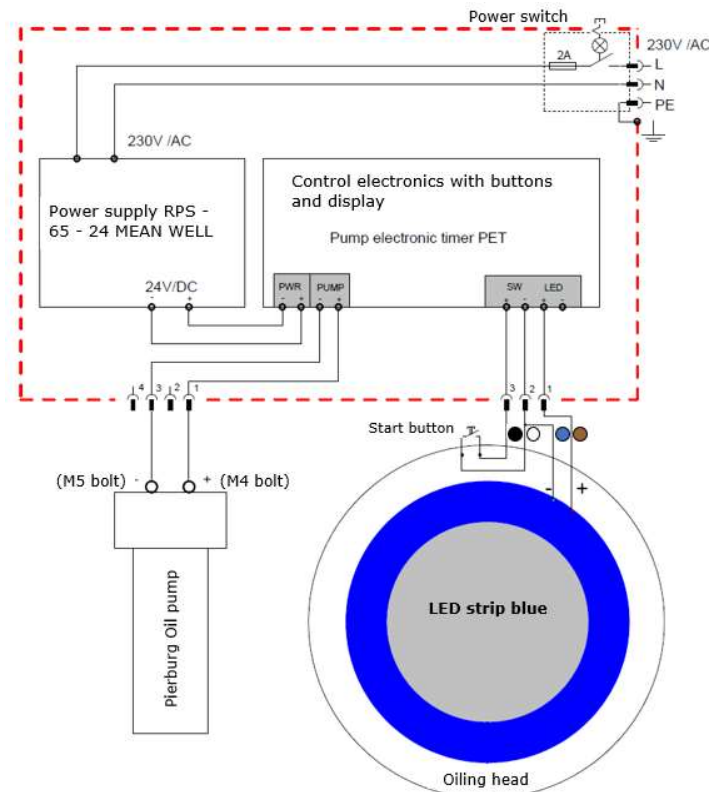

Fig 6. Electric wiring
Motor is not running	Check the electrical wiring (Fig 6.) Spare fuse is fitted in the fuse compartment. (34)